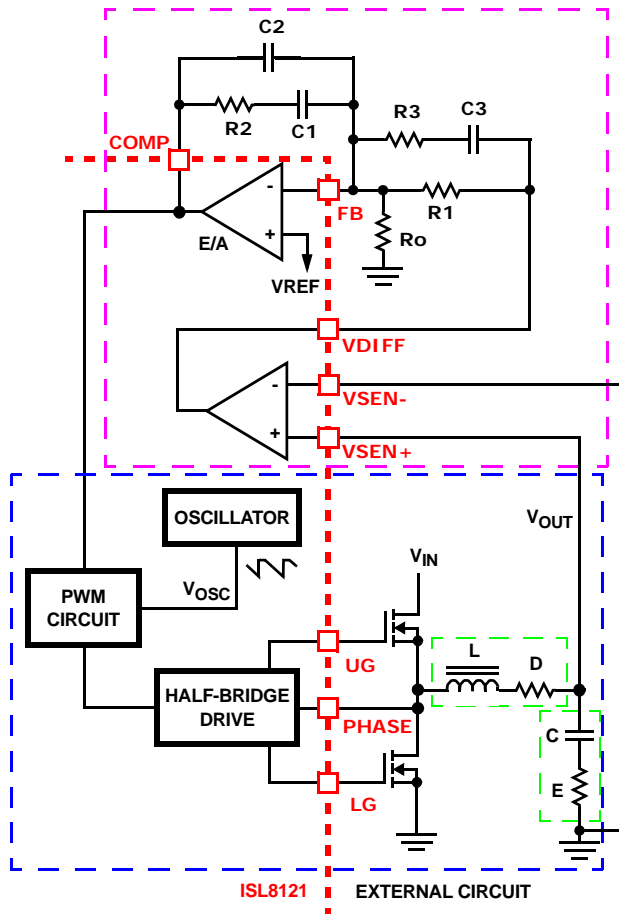

FIGURE 24. VOLTAGE-MODE BUCK CONVERTER COMPENSATION DESIGN
Figure 24 highlights the voltage-mode control loop for a synchronous-rectified buck converter, applicable, with a small number of adjustments, to the multi-phase ISL8121 circuit. The output voltage (V_{OUT}) is regulated to the reference voltage, VREF, level. The error amplifier output (COMP pin voltage) is compared with the oscillator (OSC) modified saw-tooth wave to provide a pulse-width modulated wave with an amplitude of V_{IN} at the PHASE node. The PWM wave is smoothed by the output filter (L and C). The output filter capacitor bank's equivalent series resistance is represented by the series resistor E.
1. Select a value for R1 (1kΩ to 5kΩ, typically). Calculate value for R2 for desired converter bandwidth (F_0). If setting the output voltage via an offset resistor connected to the FB pin, R_o in Figure 24, the design procedure can be followed as presented. However, when setting the output voltage via a resistor divider placed at the input of the differential amplifier, in order to compensate for the attenuation introduced by the resistor divider, the obtained R2 value needs be multiplied by a factor of $(R_p + R_s)/R_p$. The remainder of the calculations remain unchanged, as long as the compensated R2 value is used.